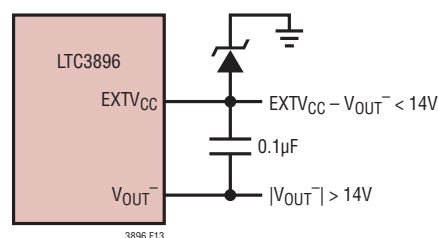

Figure 13. Using a Zener Diode Between $EXTV_{CC}$ and Ground
4. $EXTV_{CC}$ connected to ground through an external Zener diode. If the output voltage is more negative than -14V, a Zener diode can be used to drop the necessary voltage between ground and $EXTV_{CC}$ such that $EXTV_{CC}$ with respect to V_{OUT-} remains below 14V (Figure 13). In this configuration, a bypass capacitor from $EXTV_{CC}$ to V_{OUT-} of at least 0.1μF is recommended. An optional resistor between $EXTV_{CC}$ and V_{OUT-} can be inserted to ensure adequate bias current through the Zener diode.